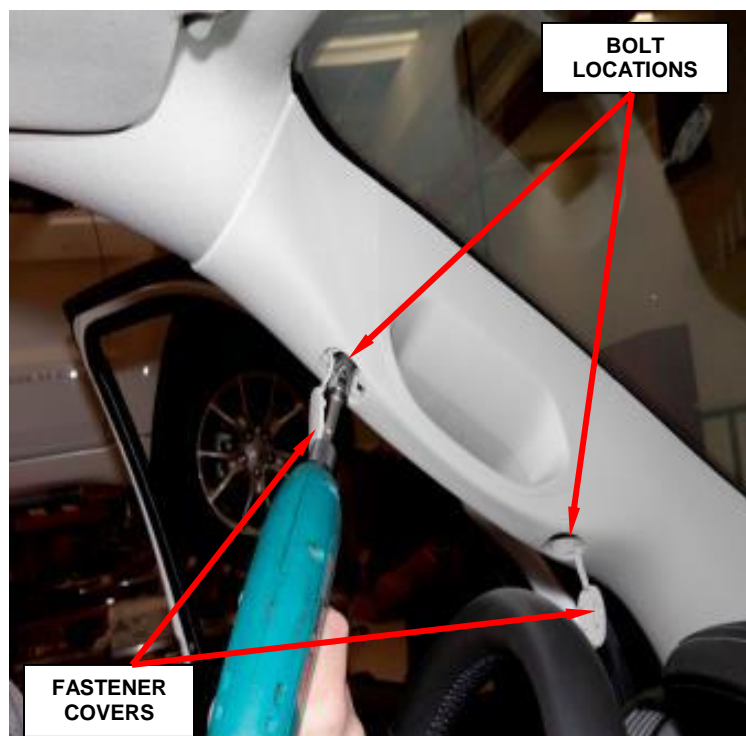

Figure 1 – A-Pillar Trim
1. Using a small flat-bladed tool, carefully open the two fastener covers located in the left A-pillar trim panel (Figure 1).
3. Remove and save the two bolts that secure the left A-pillar trim panel to the left A-pillar and remove the trim panel (Figure 1).